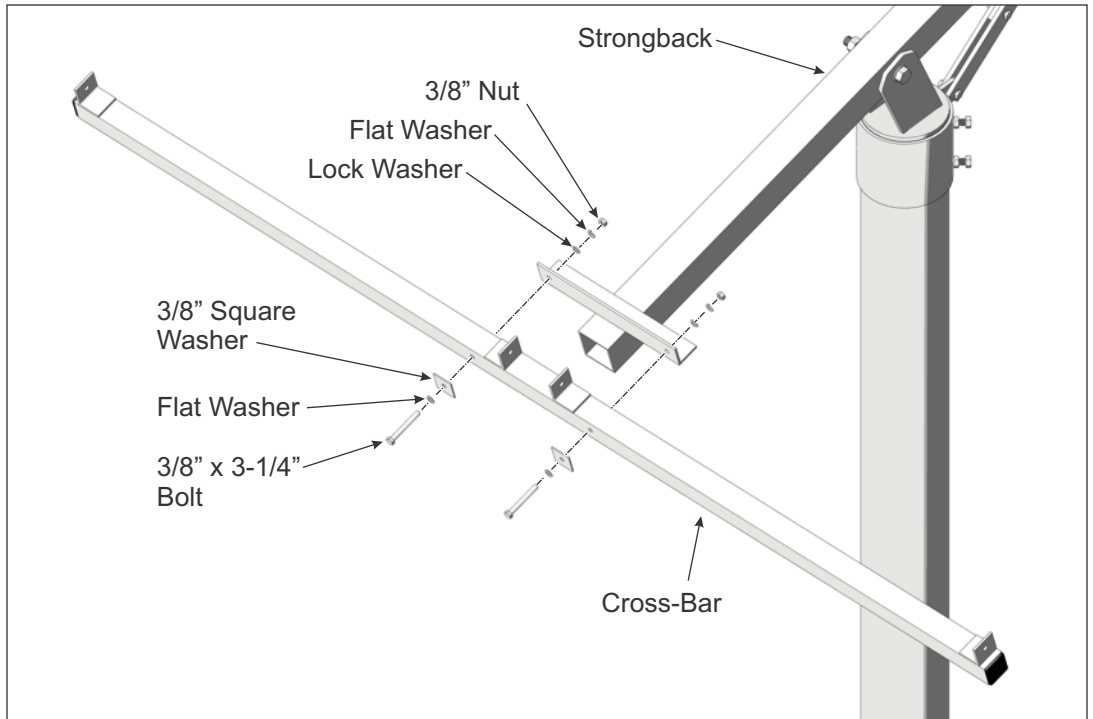

Figure 3-2: Installing Cross-Bars on the Strongback
- A. Position the Cross-Bar to the outside of the Strongback mounting angle (See Figure 3-1). Align the mounting holes and secure using 3/8" flat and square washers along with the 3/8" x 3-1/4" bolts and lock washer placing the square flat washer against the Cross-Bar. Tighten hardware and **Torque to 30-32 ft.-lbs.** (See Figure 3-2)